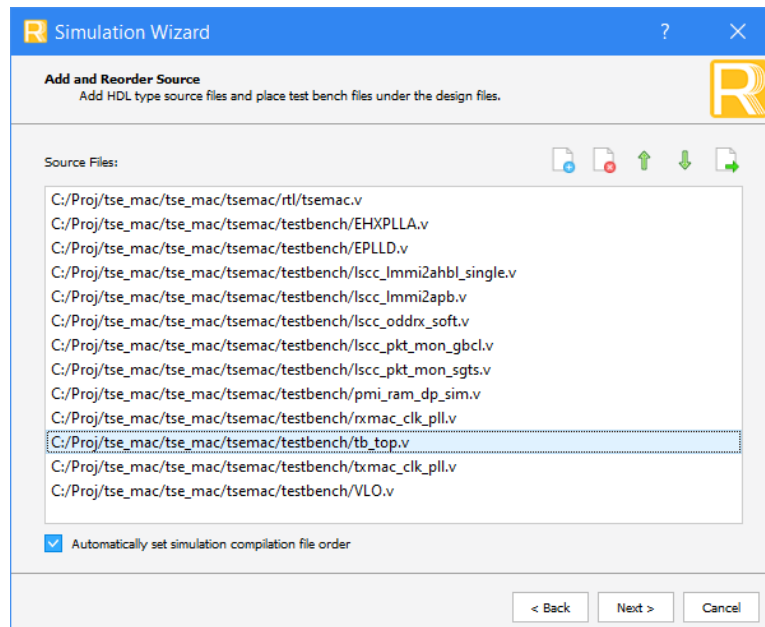

Figure 3-5. Adding and Reordering Source
2. Click **Next** to open the **Add and Reorder Source** window as shown in Figure 3-5.